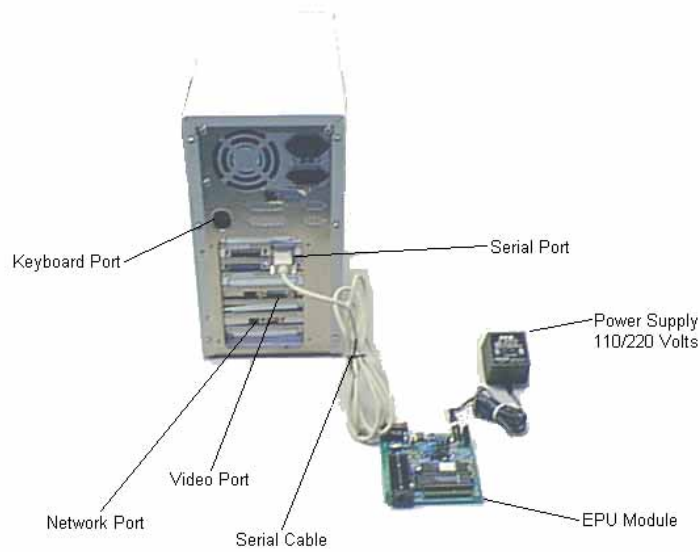

Figure 3.
3. Connect the serial cable to the PC and then connect the other end to the Debug Module. This is shown in the Fig 3.